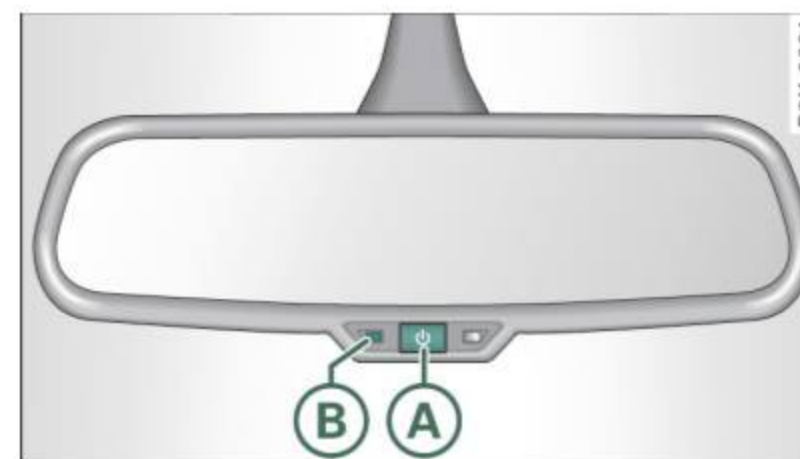

Fig. 65 Inside rear
- Press button **(A)** ⇒ *page 65, fig. 65 briefly*, - the indicator light **(B)** goes out.